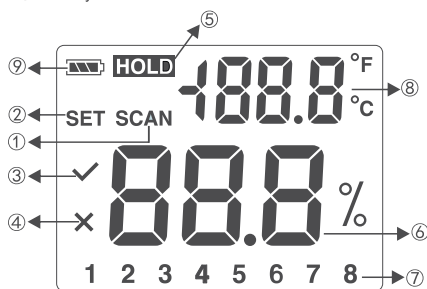

Figure 1
1. LCD display : as shown in (Figure 1)
- ① Measurement prompt
- ② Moisture setting prompt
- ③ Not exceed the upper limit
- ④ Exceed the upper limit
- ⑤ Measurement data holding symbol
- ⑥ Measurement reading
- ⑦ Gear
- ⑧ Temperature value
- ⑨ Battery level indication